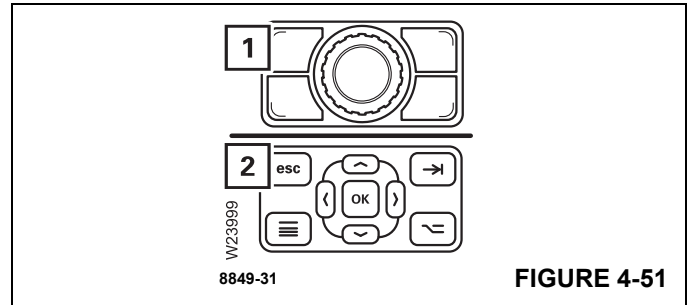

FIGURE 4-51
You can cancel the input at any time. Press button (1), (Figure 4-51) or (2).